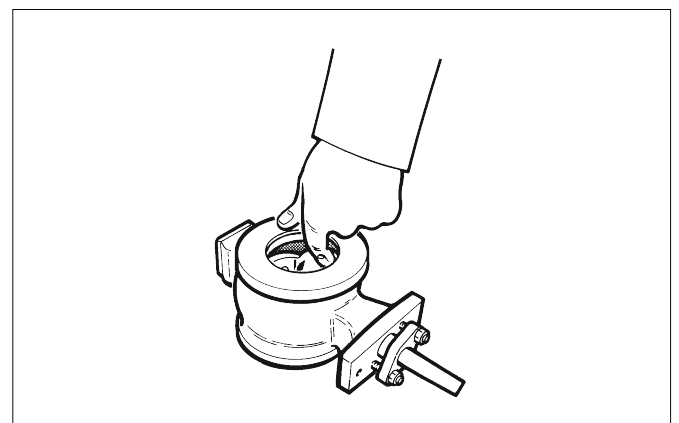

Fig. 11 Turning the ball segment
- ☐ Turn the segment (3) so that it does not touch the seat, Fig. 11.